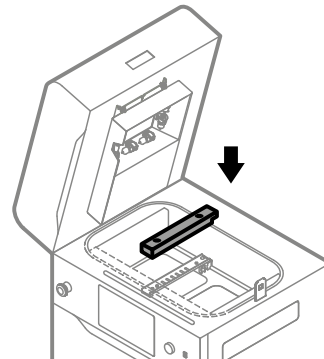

Fig. 12.60 Reinstall the black Recoater cover and tighten the screws.
18. Reinstall the black Recoater cover (fig. 12.60).